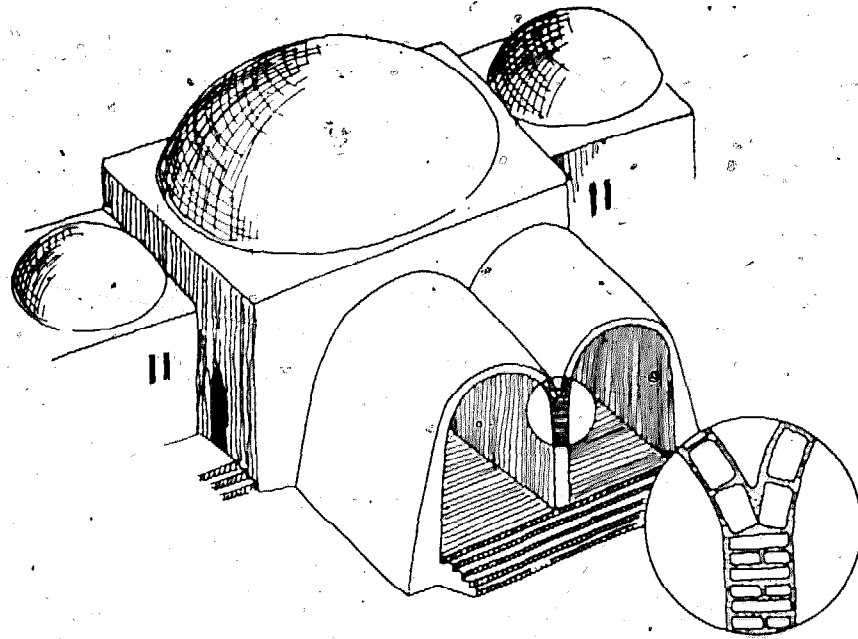

Figure 88. This style of earth dome and vault construction was used in a reconstruction program at New Gourná, Egypt.
*ARCH OF VAULT ROOFS*—(See Figure 88.) These types of roofs are used in areas where timber is scarce. They require some skill to build although in some areas such roofs have been used for centuries and local masons know how to build them.